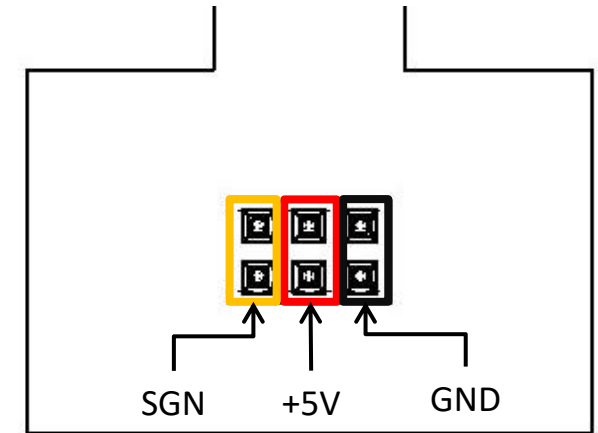

Figure 5:
- The connections for the input and the output follow the servo motor standard (Figure 5)